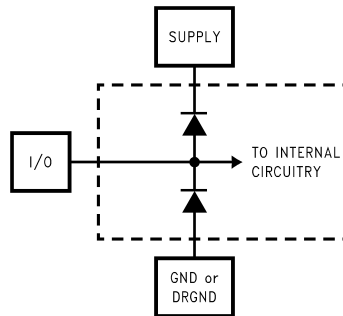

Figure 2.
- (1) The inputs are protected as shown below. Input voltage magnitudes above V_A or below GND will not damage this device, provided current is limited, see Note 4 in the Absolute Maximum Ratings table. However, errors in the A/D conversion can occur if the input goes above V_A or below GND by more than 100 mV. As an example, if V_A is 4.75V, the full-scale input voltage must be ≤4.85V to ensure accurate conversions (see Figure 2).
- (2) To guarantee accuracy, it is required that $|V_A - V_D| \leq 100$ mV and separate bypass capacitors are used at each power supply pin.
- (3) Typical figures are at $T_A = T_J = 25^\circ C$, and represent most likely parametric norms. Test limits are guaranteed to AOQL (Average Outgoing Quality Level).
- (4) Integral Non Linearity is defined as the deviation of the analog value, expressed in LSBs, from the straight line that passes through positive and negative full-scale.
- The inputs are protected as shown below. Input voltage magnitudes above V_A or below GND will not damage this device, provided current is limited, see Note 4 in the Absolute Maximum Ratings table. However, errors in the A/D conversion can occur if the input goes above V_A or below GND by more than 100 mV. As an example, if V_A is 4.75V, the full-scale input voltage must be $\leq 4.85V$ to ensure accurate conversions (see Figure 2).
- (1) The inputs are protected as shown below. Input voltage magnitudes above V_A or below GND will not damage this device, provided current is limited, see Note 4 in the Absolute Maximum Ratings table. However, errors in the A/D conversion can occur if the input goes above V_A or below GND by more than 100 mV. As an example, if V_A is 4.75V, the full-scale input voltage must be $\leq 4.85V$ to ensure accurate conversions (see Figure 2).
- (3) With the test condition for $V_{REF} = +2.0V$ (4V_{P-P} differential input), the 12-bit LSB is 977 μV .
- (4) Timing specifications are tested at TTL logic levels, $V_{IL} = 0.4V$ for a falling edge and $V_{IH} = 2.4V$ for a rising edge.
- (5) Typical figures are at $T_A = T_J = 25^\circ C$, and represent most likely parametric norms. Test limits are guaranteed to AOQL (Average Outgoing Quality Level).